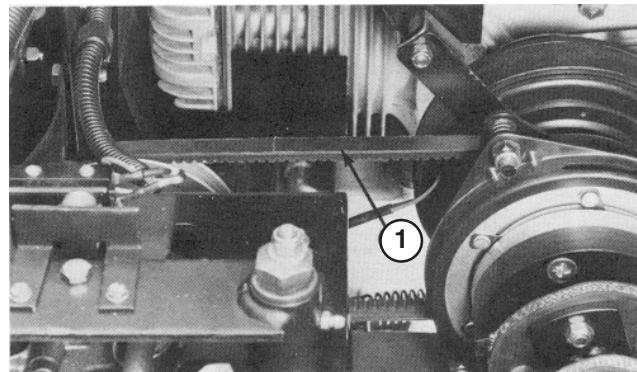

Figure 31
2. Check the belt tension by depressing the belt midway between the pulleys with 3 lb. of force. The belt should deflect 9/64 in. (Fig. 31).